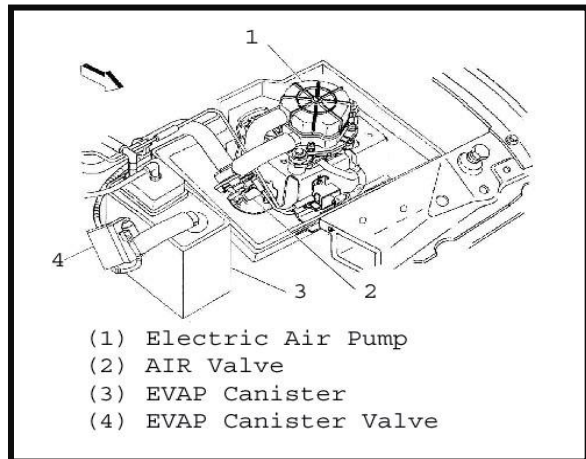

FIGURE 6.7 Air Pump Connections
6.2.2 The secondary Air Injection (**AIR**) system helps reduce hydrocarbon (HC), carbon monoxide (CO), and oxides of nitrogen (NOx) exhaust emissions.
- A. **AIR PUMP (not equipped on all models)** - The AIR pump assembly is mounted in the right rear corner of the engine compartment and supplies the air to the AIR system. The electric air pump sends air to the check valves near the exhaust manifolds. The AIR pump is controlled by the Powertrain Control Module (**PCM**) through the AIR pump solenoid relay. Battery voltage to the AIR pump is controlled by the AIR pump solenoid relay. A vacuum operated shut off valve prevents air flow during OFF periods. When the PCM provides a ground circuit for the secondary AIR pump solenoid relay, battery voltage applies power to the AIR pump and the solenoid. Intake manifold vacuum is then applied through the solenoid to the vacuum operated shut off valve. The vacuum operated shut off valve then opens up and allows air to be delivered to the check valves. **See Figure 6.7**